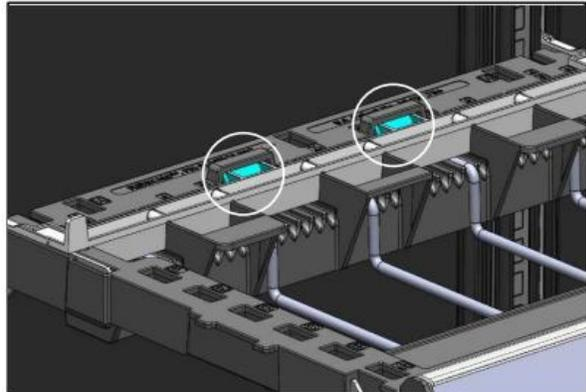

Figure 4
- 4. Note that the two middle tabs must be secured under the raised portion by slightly flexing them into the position (See Figure 4).